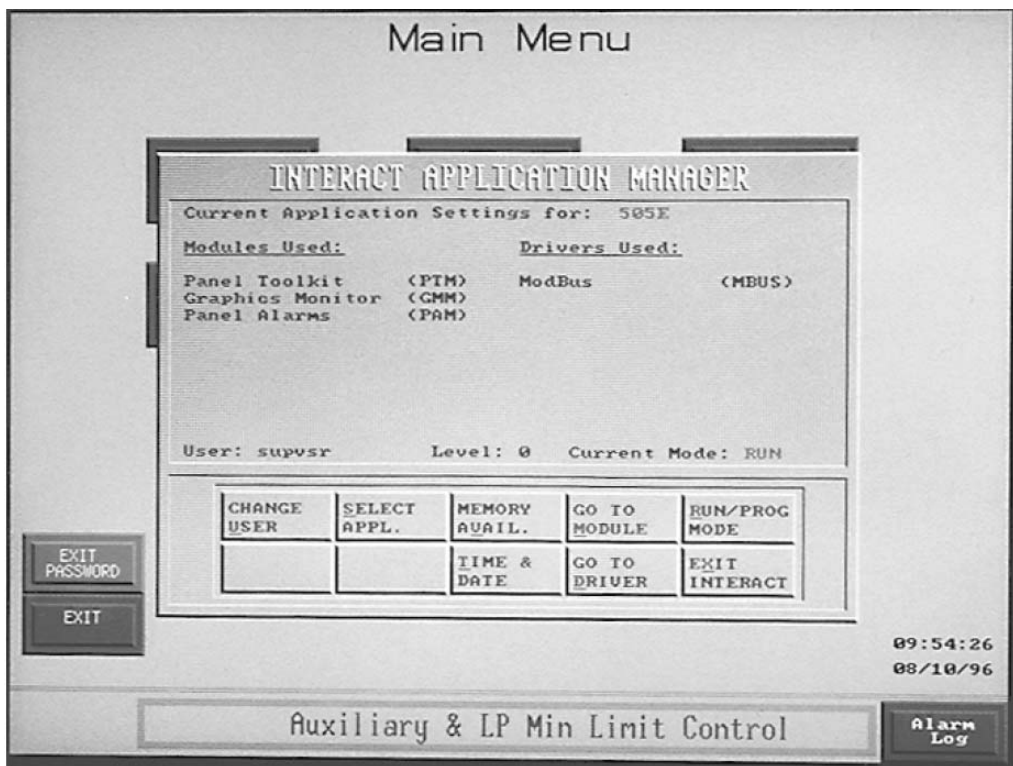

Figure 3-9. Application Manager
11. Press Change User button from the Application Manager menu (see Figure 3-9).
14. Press Go To Module button (see Figure 3-9).